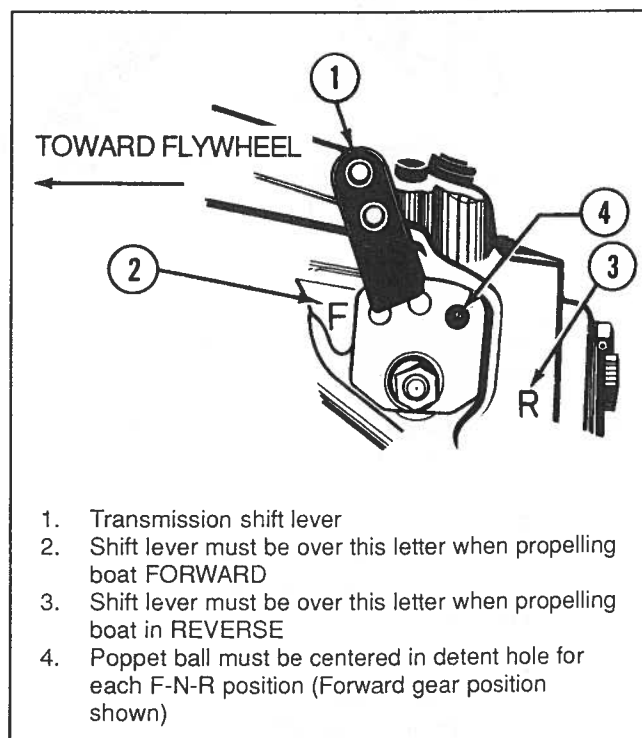

Figure 2-11. Transmission Shift Lever
3. After installation, move the transmission shift lever through the forward, neutral and reverse positions (Figure 2-11). No more than fingertip effort should be required. If the valve binds, the cause for binding must be found and corrected.